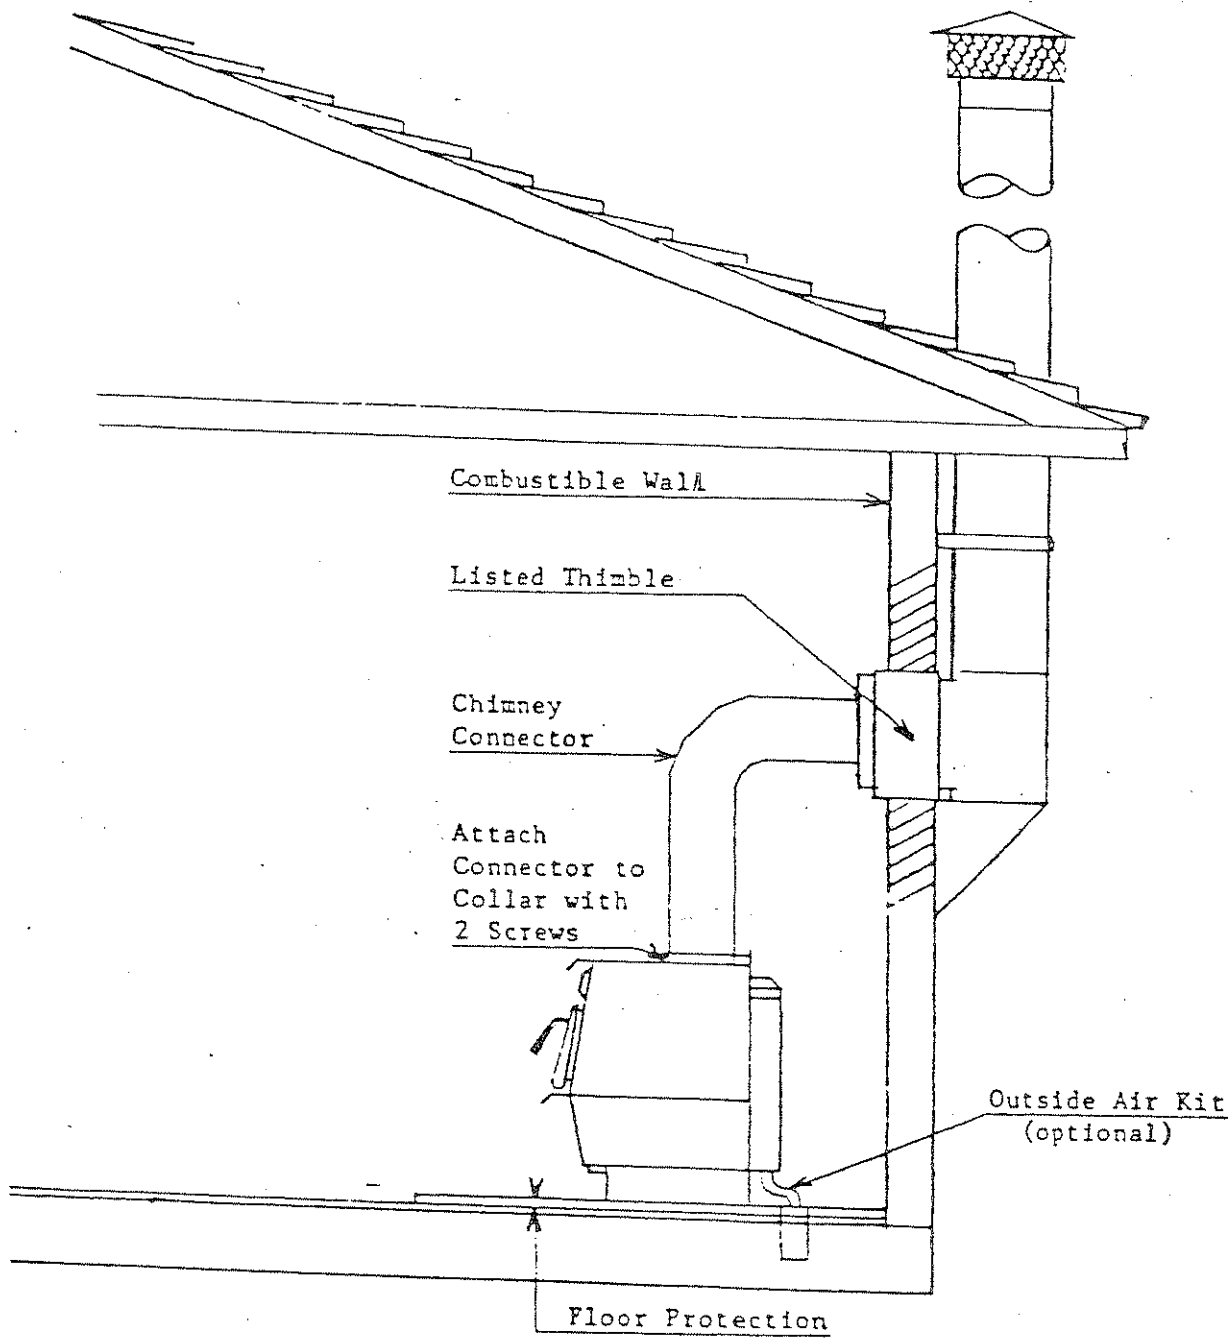

Figure 5: Residential Installation, with Prefabricated Chimney outside a combustable wall.
A chimney connector can also be used horizontally as a connection between the stove and masonry chimneys or Prefabricated chimneys, provided that the length does not exceed three (3) feet AND THE PIPE SLOPES UPWARD TOWARD THE CHIMNEY AT A RATE OF 1/4" PER FOOT. This slope in the horizontal connection is required to facilitate the drainage of creosote deposits back into the stove (see Fig. 5 & 6). The chimney connector is to be attached to the smoke collar with two screws.